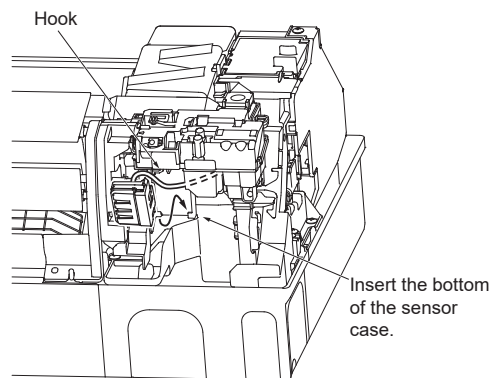

Fig. 3
(4) Insert the refrigerant sensor in the direction of the arrow and then fix it with the hook. (Fig. 3)